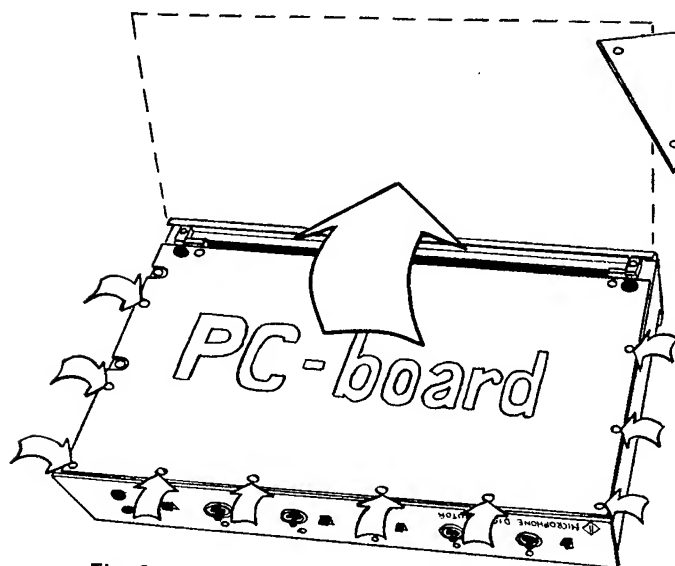

Fig. 2
2. Remove those ten screws from the bottom of the chassis, marked in figure 2, fixing the upward-folding hinged PC-board. Turn the PC-board up.